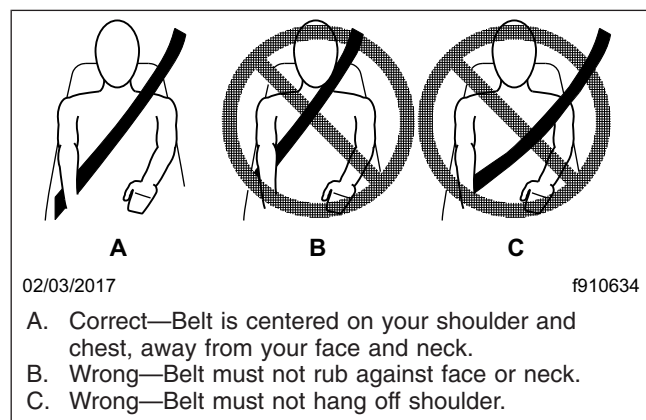

Fig. 7.11, Proper Shoulder Strap Fit
5. Position the shoulder strap diagonally across your chest with the adjustable D-loop bracket (if equipped). The shoulder strap must be centered on your shoulder and chest, away from your face and neck. See Fig. 7.11. If desired, engage the Komfort Latch or Sliding Komfort Latch as follows.